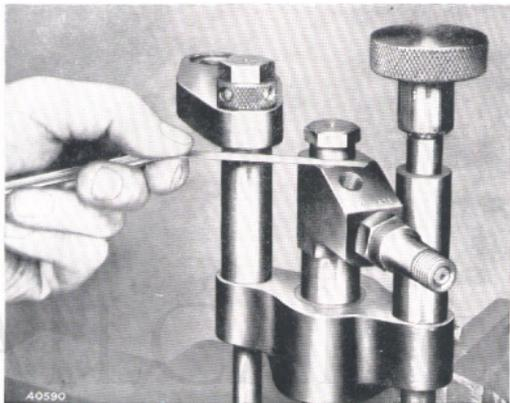

Fig. 74. Checking the needle valve lift.
5. Check that the needle lift is between .016 in. and .018 in. (.4064 mm. to .4572 mm.). To do this remove the injector end plug and valve spring. Insert a .025 in. (.6350 mm.) thick shim on top of the needle valve lift distance washer and replace the end plug. Screw down the plug by hand and measure the gap between the end plug and injector body, using a set of feeler gauges (Fig. 74).